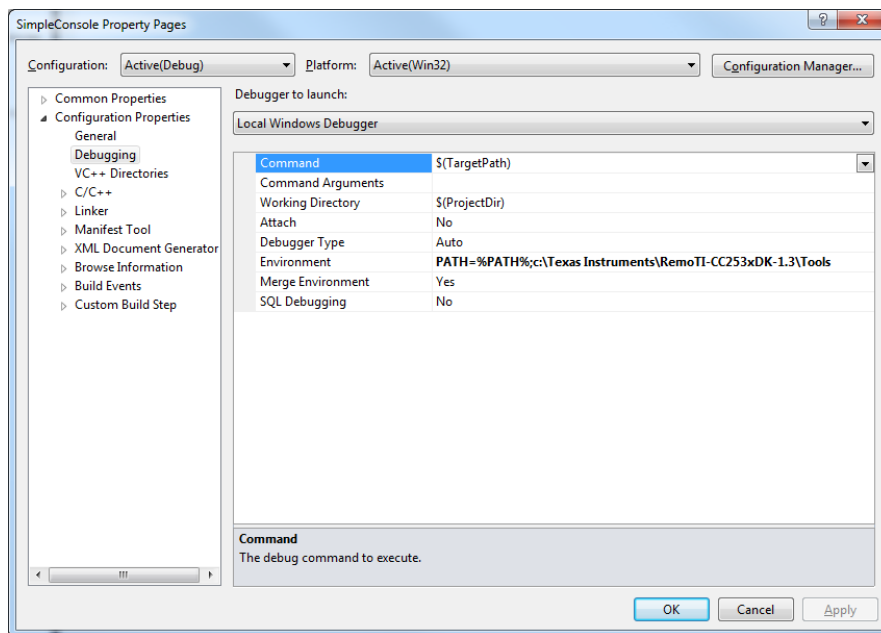

Figure 9. VC++ Express Environment Path Configuration
- d. Go to Debugging and the Environment category and add “PATH=%PATH%;c:\Texas Instruments\RemoTI-CC253xDK-1.3.1\Tools”. See Figure 9.